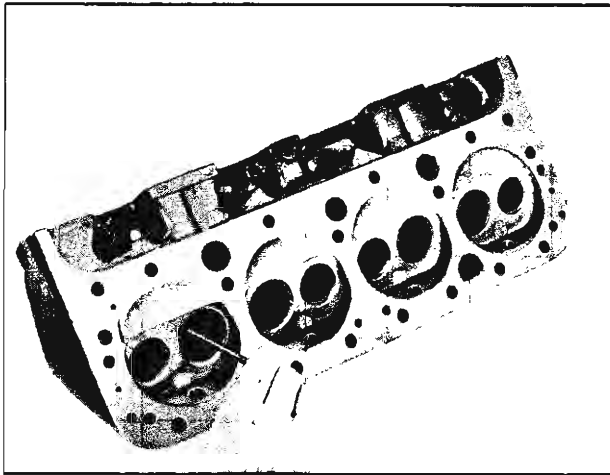

Fig. 64—Cleaning Valve Bores
2. Thoroughly clean the valve bores, using Tool J-8101 (fig. 64).